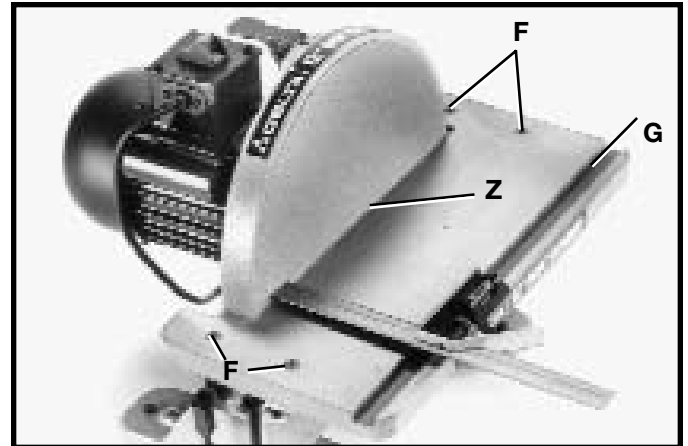
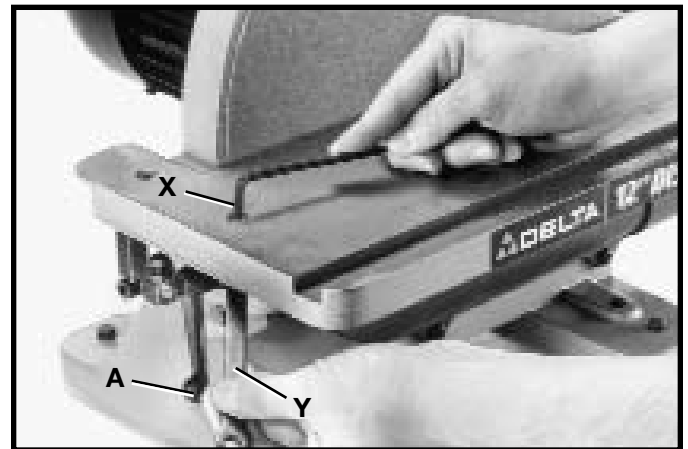

Fig. 10
Fig. 11
1. Check to see if the miter gage slot (G) Fig. 10, is parallel with the disc by placing a combination square in the miter gage slot with one end of the square against the disc as shown.
4. Using the supplied wrenches (X) and (Y) Fig. 11, loosen the four screws (F) Fig. 10, which secure the table to the trunnions and adjust the table by moving it in or out until the miter gage slot is parallel with the disc. Then tighten four screws (F) Fig. 10. **NOTE:** When making this adjustment, be sure the table locking handles, one of which is shown at (A) Fig. 11, are tightened. **⚠️WARNING: TO AVOID TRAPPING THE WORK OR FINGERS BETWEEN THE TABLE AND ABRASIVE DISC, THE TABLE EDGE (Z) FIG. 10, SHOULD BE POSITIONED A MAXIMUM OF 1/16" FROM THE ABRASIVE DISC, AS SHOWN.**